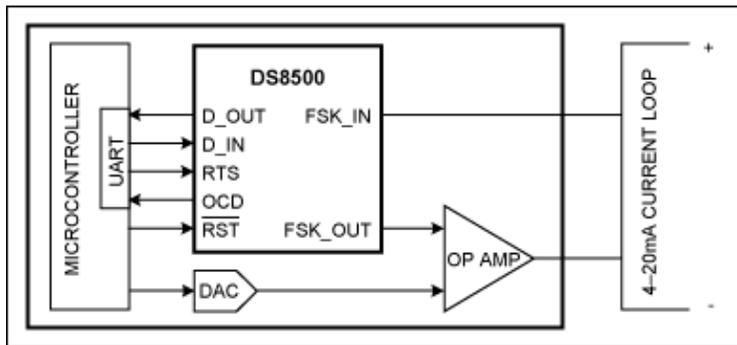

Figure 1. An intelligent process transmitter features the DS8500 HART modem communicating with a system microcontroller.
**Figure 1** shows a top-level block diagram of the DS8500 in an intelligent process transmitter. The design
In demodulator mode, the DS8500 expects a valid UART start signal to synchronize the data communication. The interface between the HART modem and the microcontroller is also shown in Figure 1. Referring back to Figure 1, the microcontroller must contain the HART software stack required for communication. D\_IN is the digital-signal data input to the DS8500 which will modulate it to an FSK\_OUT signal. D\_OUT is the digital-signal data output from the DS8500 that has been demodulated from an FSK\_IN signal. RTS receives the microcontroller's request to initiate the demodulate (Rx) or modulate (Tx) mode of the modem.